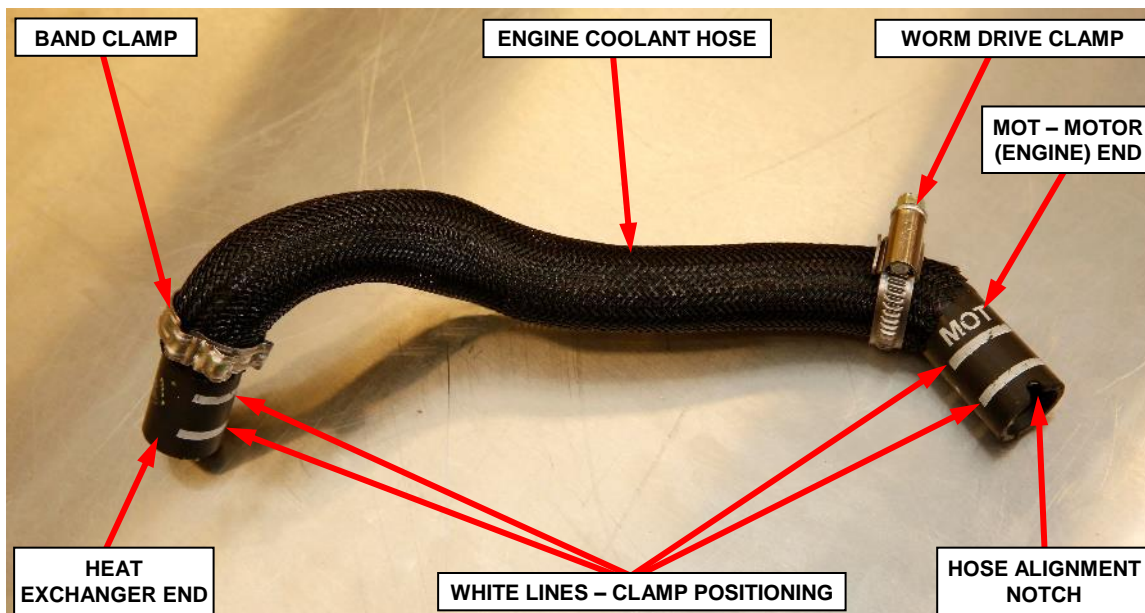

Figure 24 – Engine Coolant Hose
1. Install the new hose clamps onto the new hose (Figure 24).
NOTE: The worm drive clamp should be positioned at the lower (engine) end of the hose identified by the white letters “MOT” indicating motor printed on the hose. The band clamp should be positioned at the upper (heat exchanger) end of the hose (Figure 24).
IMPORTANT: When installing the new hose, ensure the notches on each end of the hose index with the alignment feature on the water supply pipe and heat exchanger in order to prevent distorting the hose (Figure 24).
IMPORTANT: The hose clamps must be positioned between the white lines printed on the hose ends (Figure 24).